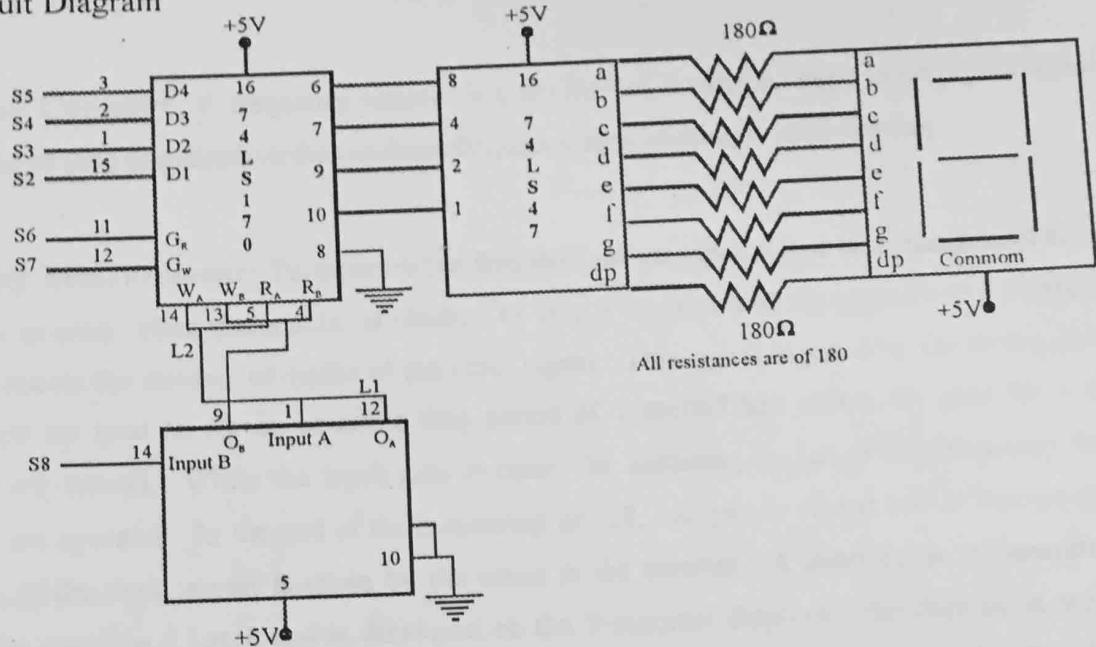

Figure 16.2
4. Wire the circuit as shown in the Figure 16.2.